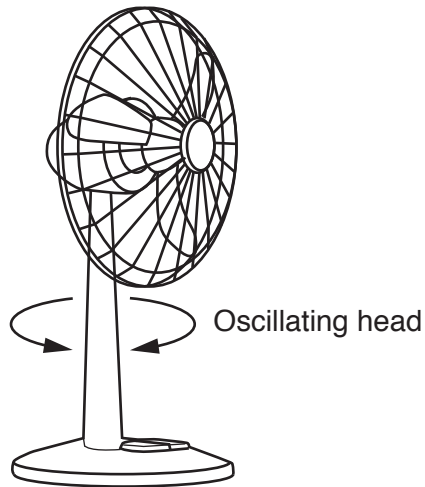

Fig. 8
Fig. 8 shows an electric desk fan with an oscillating head.
(a) Give **four** justified design requirements for an electric desk fan of the type shown in Fig. 8.
- (e) (i) The oscillating motion of the fan in Fig. 8 is driven by a rotating shaft.